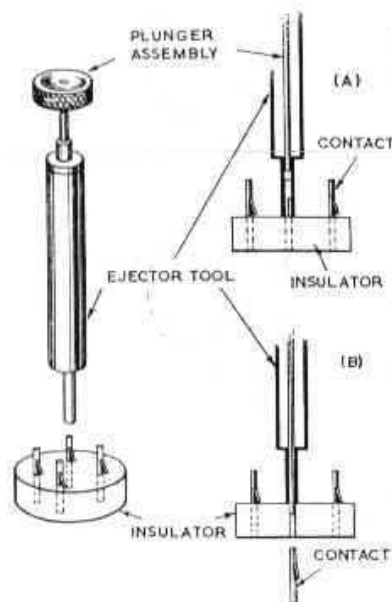

Fig. 19. Ejector tool
Ejector tool (fig. 19)
- (1) Place the tool end over the contacts so that it presses the contact flap back (fig. 19(A)).
- (2) Push the plunger down and eject the contact from the insulator (fig. 19(B)).